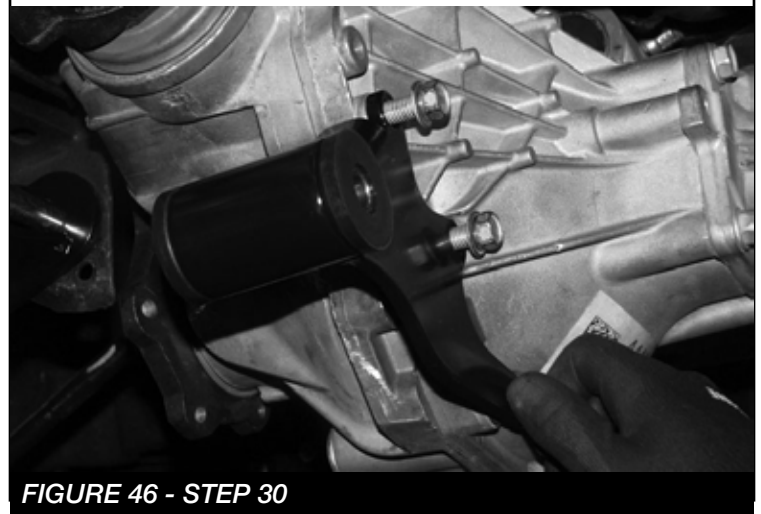

FIGURE 46 - STEP 30
30. Install the FT20365 (rear diff support bracket) on the differential using the provided M10-1.5 X 60mm bolts, washers and thread lock. Torque to 58 ft-lbs. **SEE FIGURE 46**